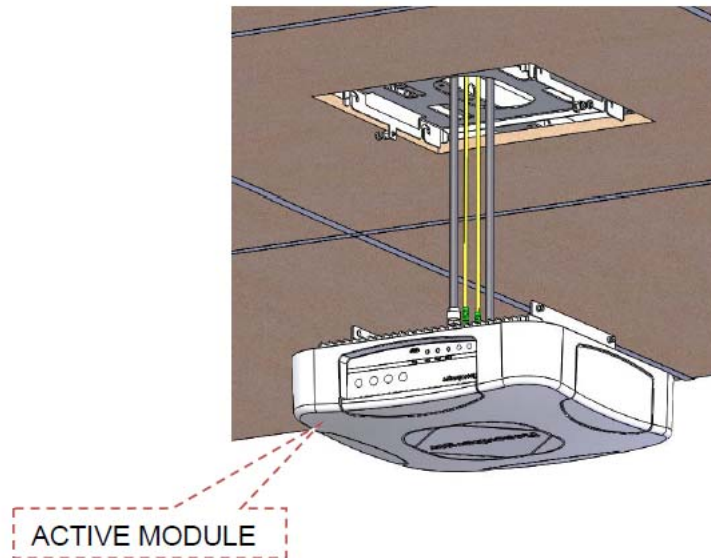

Figure 22
Step 4 Joint the connector with system, as shown in figure 22.
1. Select **16** from **Level 3** drop down list box, as shown in Figure 22